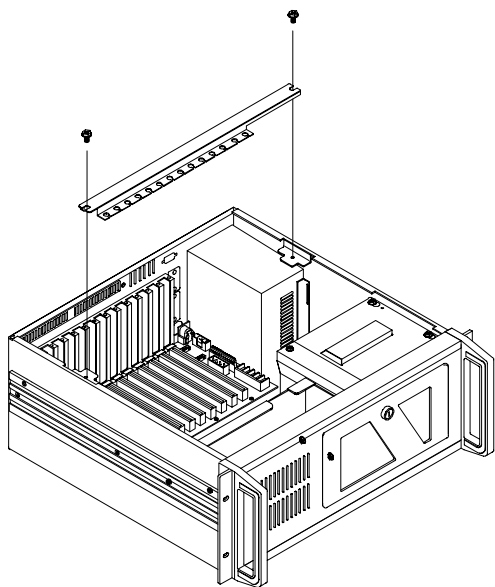

Figure 2-4: Detaching the hold-down clamp
1. Detach the hold-down clamp by removing the two screws located at each end and lifting it off the chassis. (See Fig. 2-4)